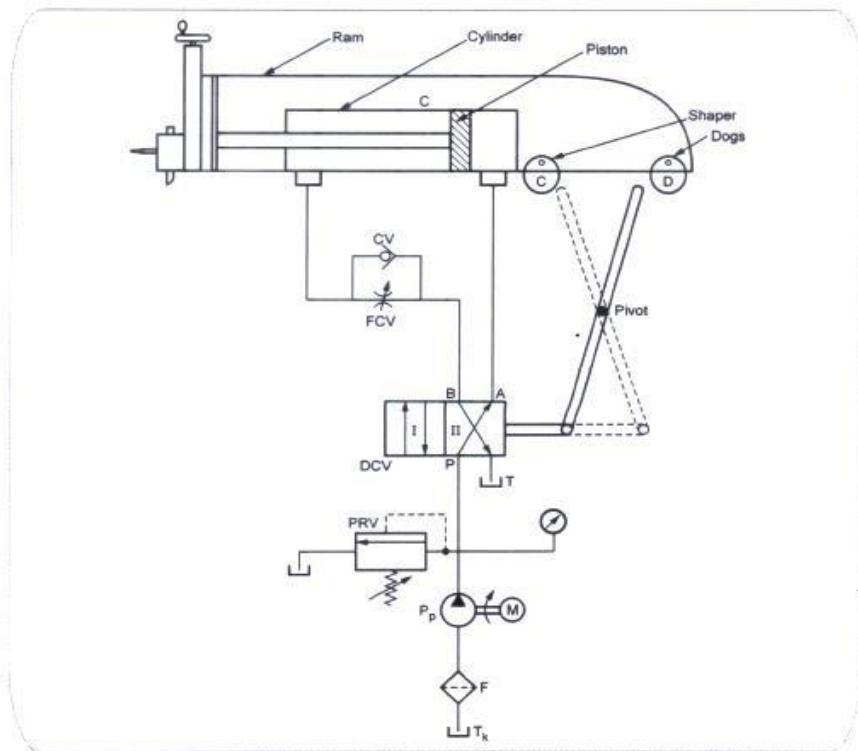

Fig. 5.4 Hydraulic circuit for shape operation
In hydraulic shaper tool is actuated by using double acting cylinder over the bed carrying workpiece to be machined. Fig. 5.4 shows hydraulic circuit for shaper machine. The basic circuit used to achieve shaper operation is meter-out circuit.
- 1) The system uses 4/2 DCV which is operated mechanically. The shaper dogs shown in the Fig. 5.4 marked by 'C' and 'O' alters the spool of DCV when being hit by the lever at the end of stroke.